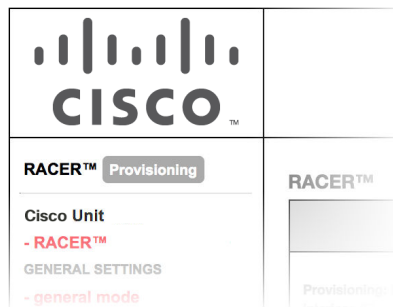

Figure 17. FM Racer status icon (Provisioning Mode)
- Check that the unit is in Provisioning Mode by looking at the colored icon to the right of the **RACER™** tag in the upper left-hand corner of the screen (Figure 17 \(page 42\)).